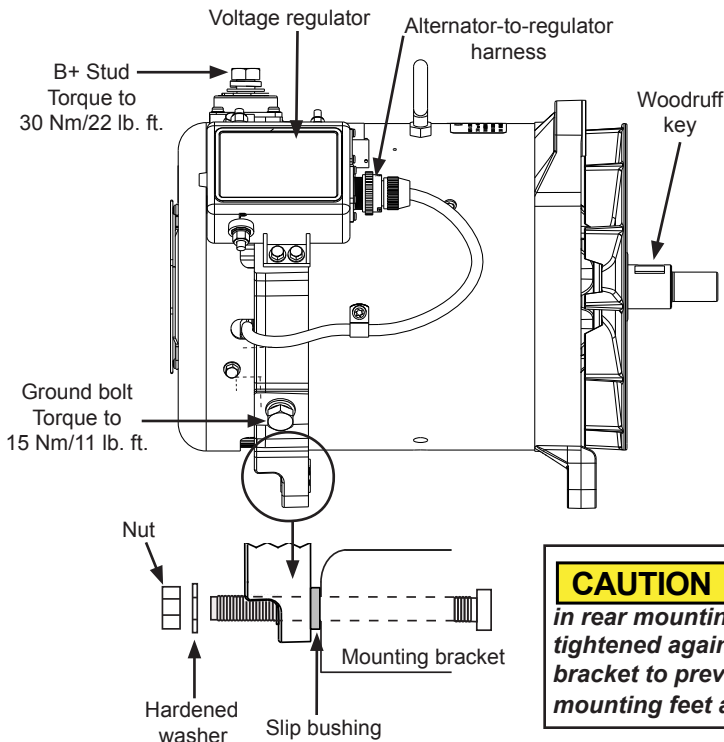
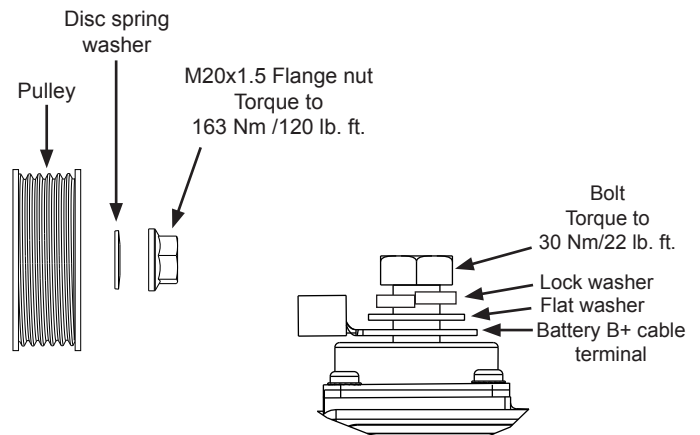
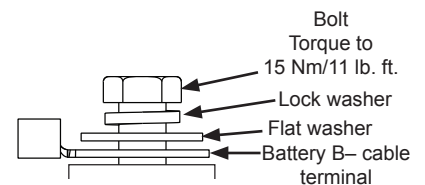

Figure 1: C811 Alternator Installation
Figure 2: Alternator B+ Terminal Hardware Stacking Order
Figure 3: Alternator B– Terminal Hardware Stacking Order
5. Connect B+ battery cable from vehicle to B+ terminal on alternator as shown in Figure 1. Secure it with mounting hardware in stacking order shown in Figure 2. Torque hardware to 30 Nm/22 lb ft.
6. Connect B– battery ground cable to ground terminal on alternator as shown in Figure 1. Secure it with mounting hardware in stacking order shown in Figure 3. Torque hardware to 15 Nm/11 lb. ft.